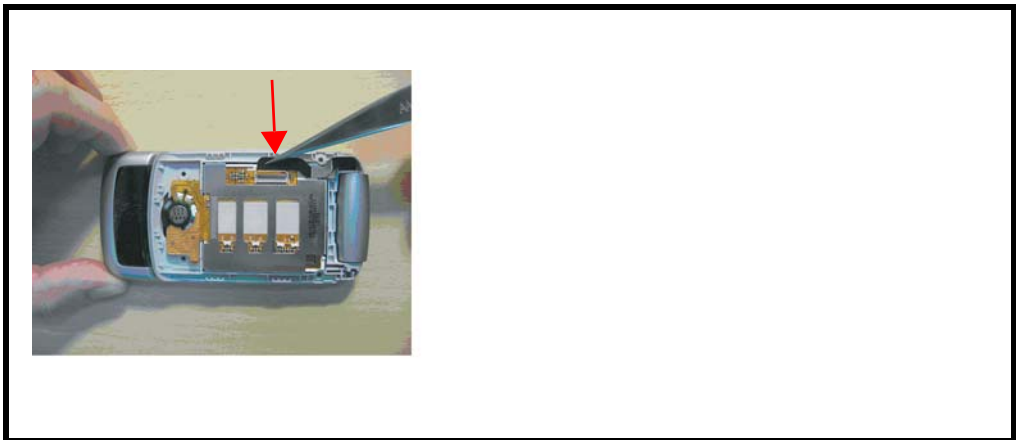

Figure 37. Replacing FPC
- 6. Insert the BTB-FPC into the connector as shown in Figure 37.